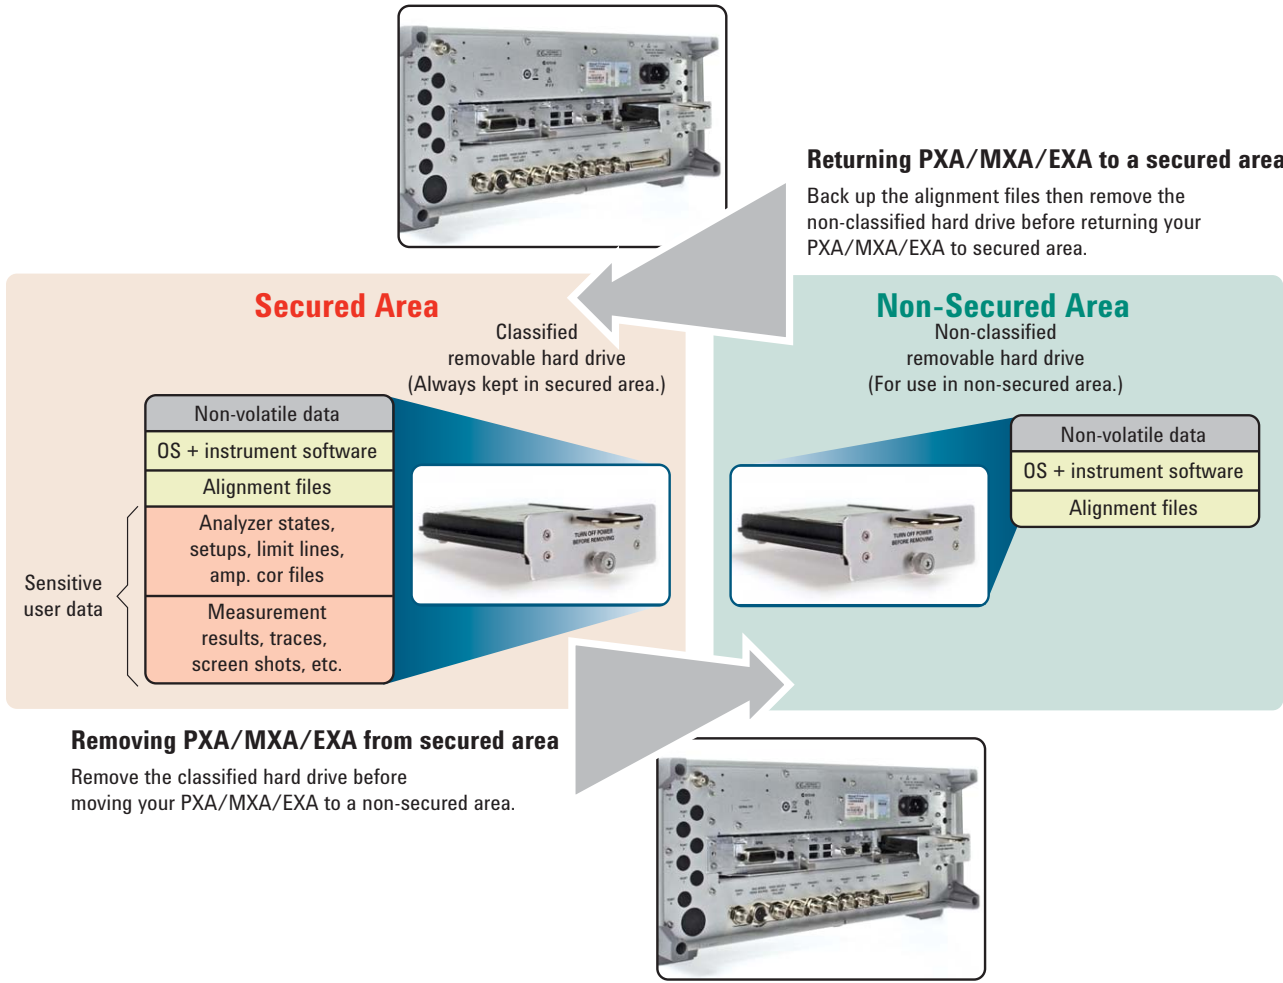

Figure 11. Data sanitization with removable hard drives in the X-Series
The removable solid state drive (SSD) included in the X-Series offers a simple but effective way to meet the most stringent data sanitization requirements. A classified SSD includes non-volatile user sensitive data and needs to be retained in the secured area. Physically removing the classified SSD allows the analyzer to be safely transported to non-secured areas, such as a calibration/repair facility, without fear of leaking sensitive user information. An additional removable SSD (Option SSD) is imaged with the operating system (OS) and instrument software but contains no sensitive user data. When in a non-secured area, the analyzer equipped with this non-classified SSD remains fully functional. Figure 11 depicts how this works.